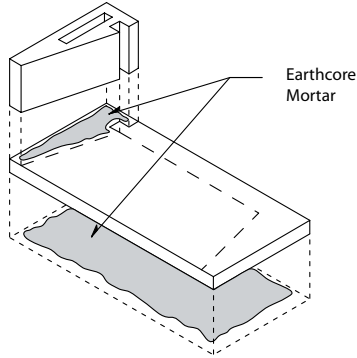

Figure 4
Step 1: The IBV base plate can be set directly on a combustible floor system. Set the base plate level in a bed of Earthcore Mortar so that the base plate is in full contact with the underlying floor system (Figure 4). Do not set the IBV base plate in span.